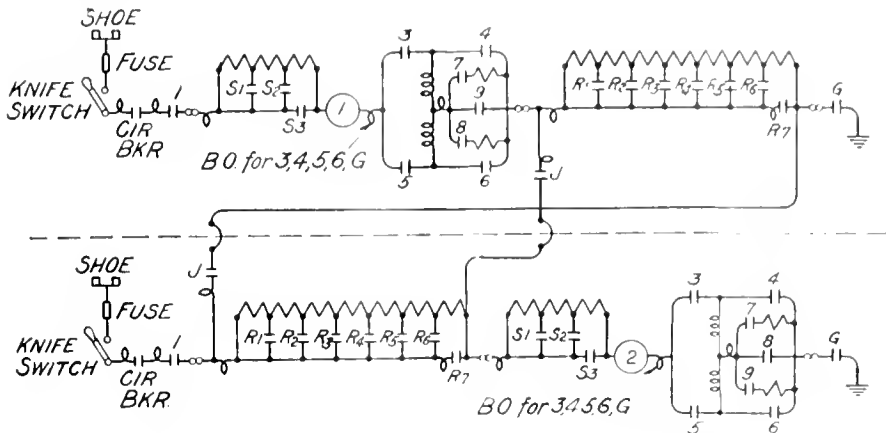

FIG. 23. MAIN MOTOR CIRCUITS FOR D. C. LOCOMOTIVE
A.—Arrangement of the D.C. circuit is shown by Fig. 23, which shows the schematic diagram of the main motor circuit for a large D.C. locomotive consisting of two halves. The sequence of switches is shown by Fig. 24.